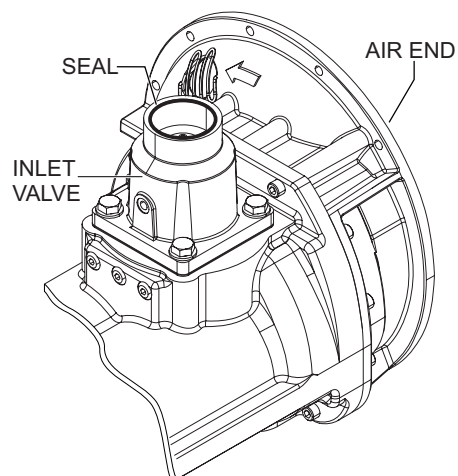

Figure 68. Inlet Valve Seal
1. Inspect the inlet valve seal (Figure 68) for wear or deformations.